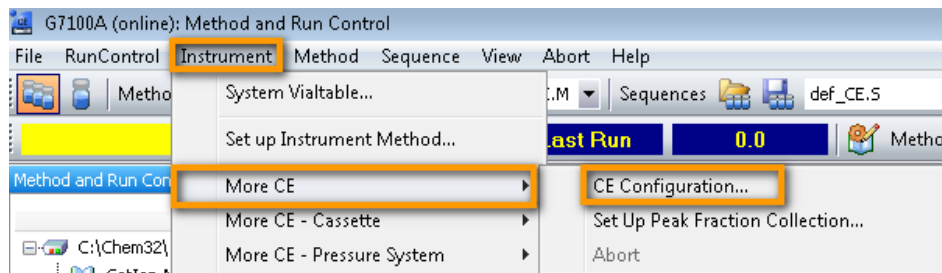

Figure 48 Configuration menu
- 5 From the instrument control screen select **Instrument > More CE > CE Configuration**, see Figure 48.